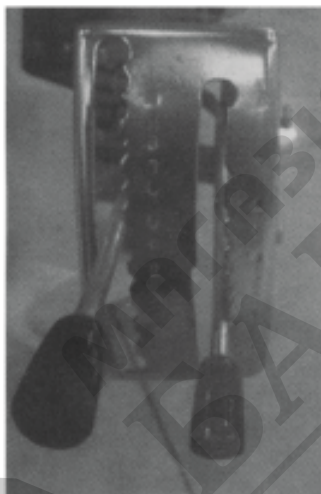
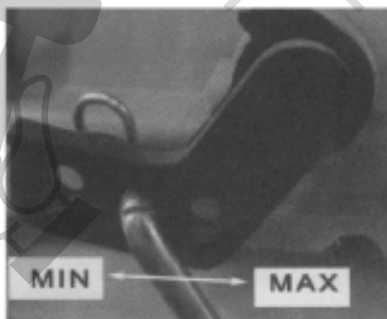

Fig 11
Fig 12
(2) Dusting. Regulate the discharge by shifting the dust rod's position in the three holes of the rock-arm. See Fig.11 and Fig.12.